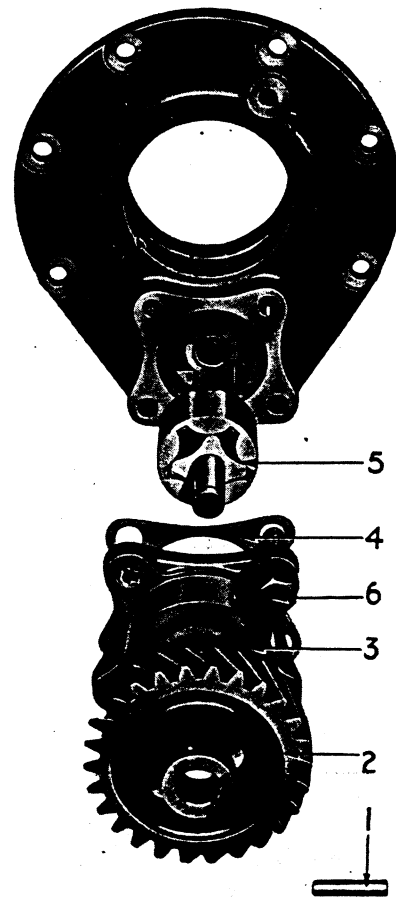

FIG. 102.
The Oil Pump, illustrated Fig. 102, is spigoted and flange bolted to the front main bearing housing and driven by a helical spur gear from the crankshaft.
It will be seen from Fig. 102, that the outer rotor has five lobes while the eccentrically mounted inner rotor has four. Thus, as the shaft turns, oil from the vacant space over the inlet port is transferred to the outer port, from which it is expelled as the lobes engage.
**Oil Pump Body:** for this bush the opposite side of the Jig is used. This has the longer spigot and is also recessed to accommodate the mounting spigot of the pump body. The dowel fits into the hole for the locating screw, shown (6) Fig. 102. Secure in position with nuts and bolts through diagonally opposite fixing holes.